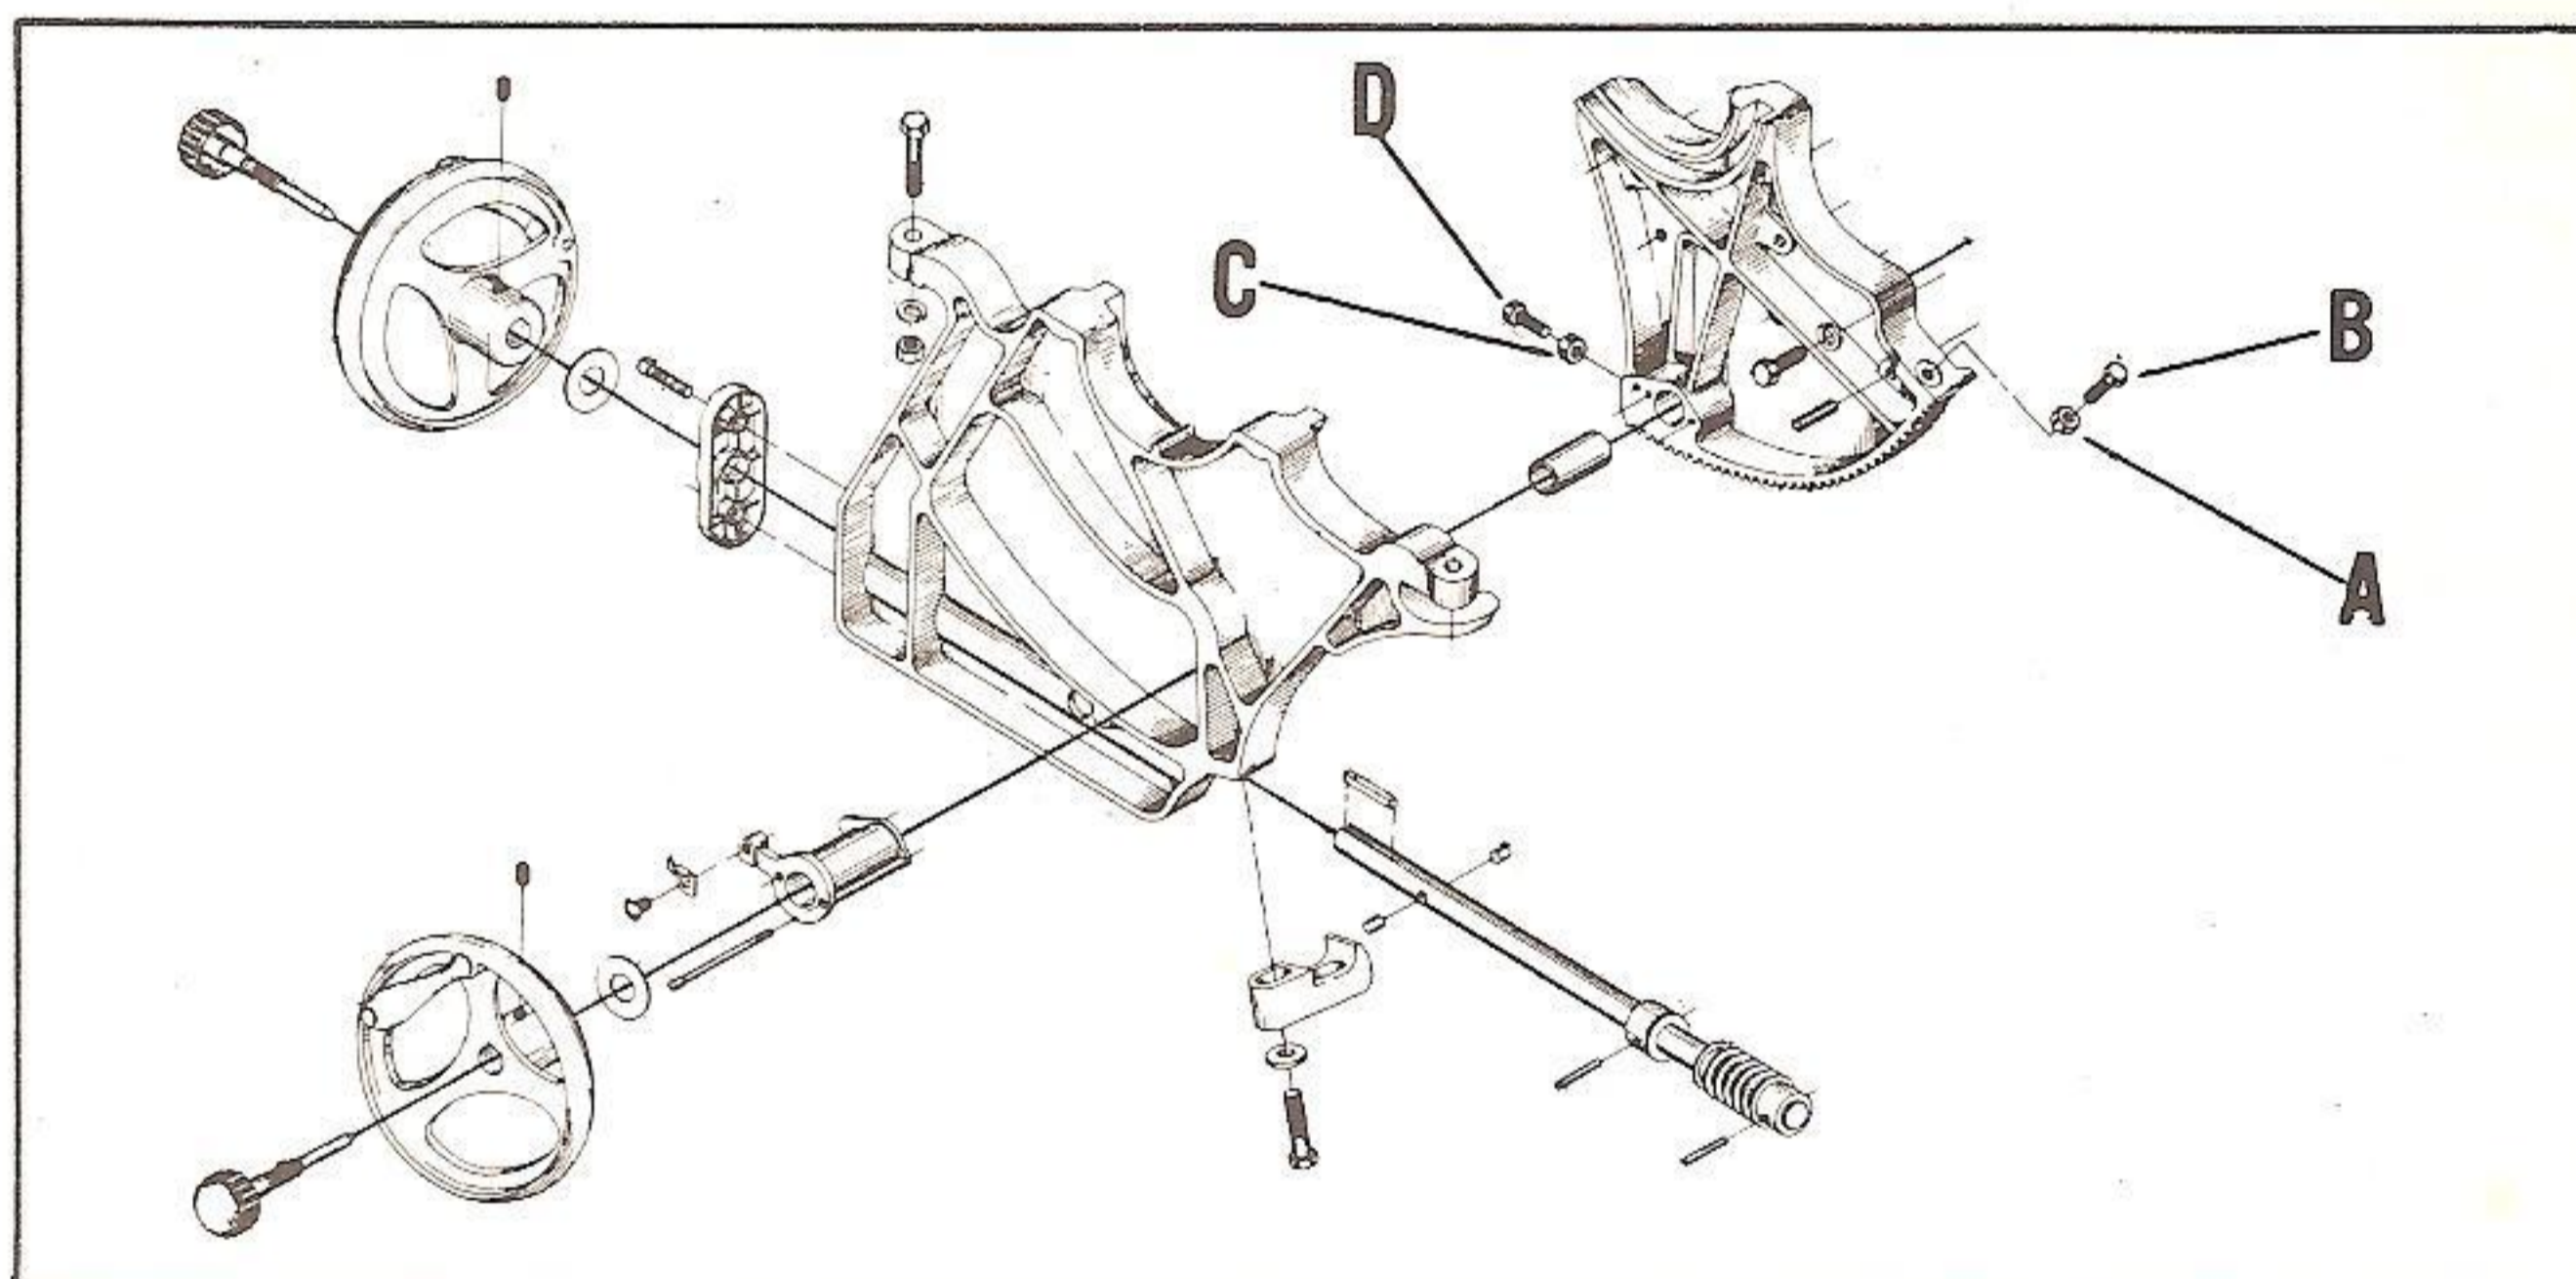
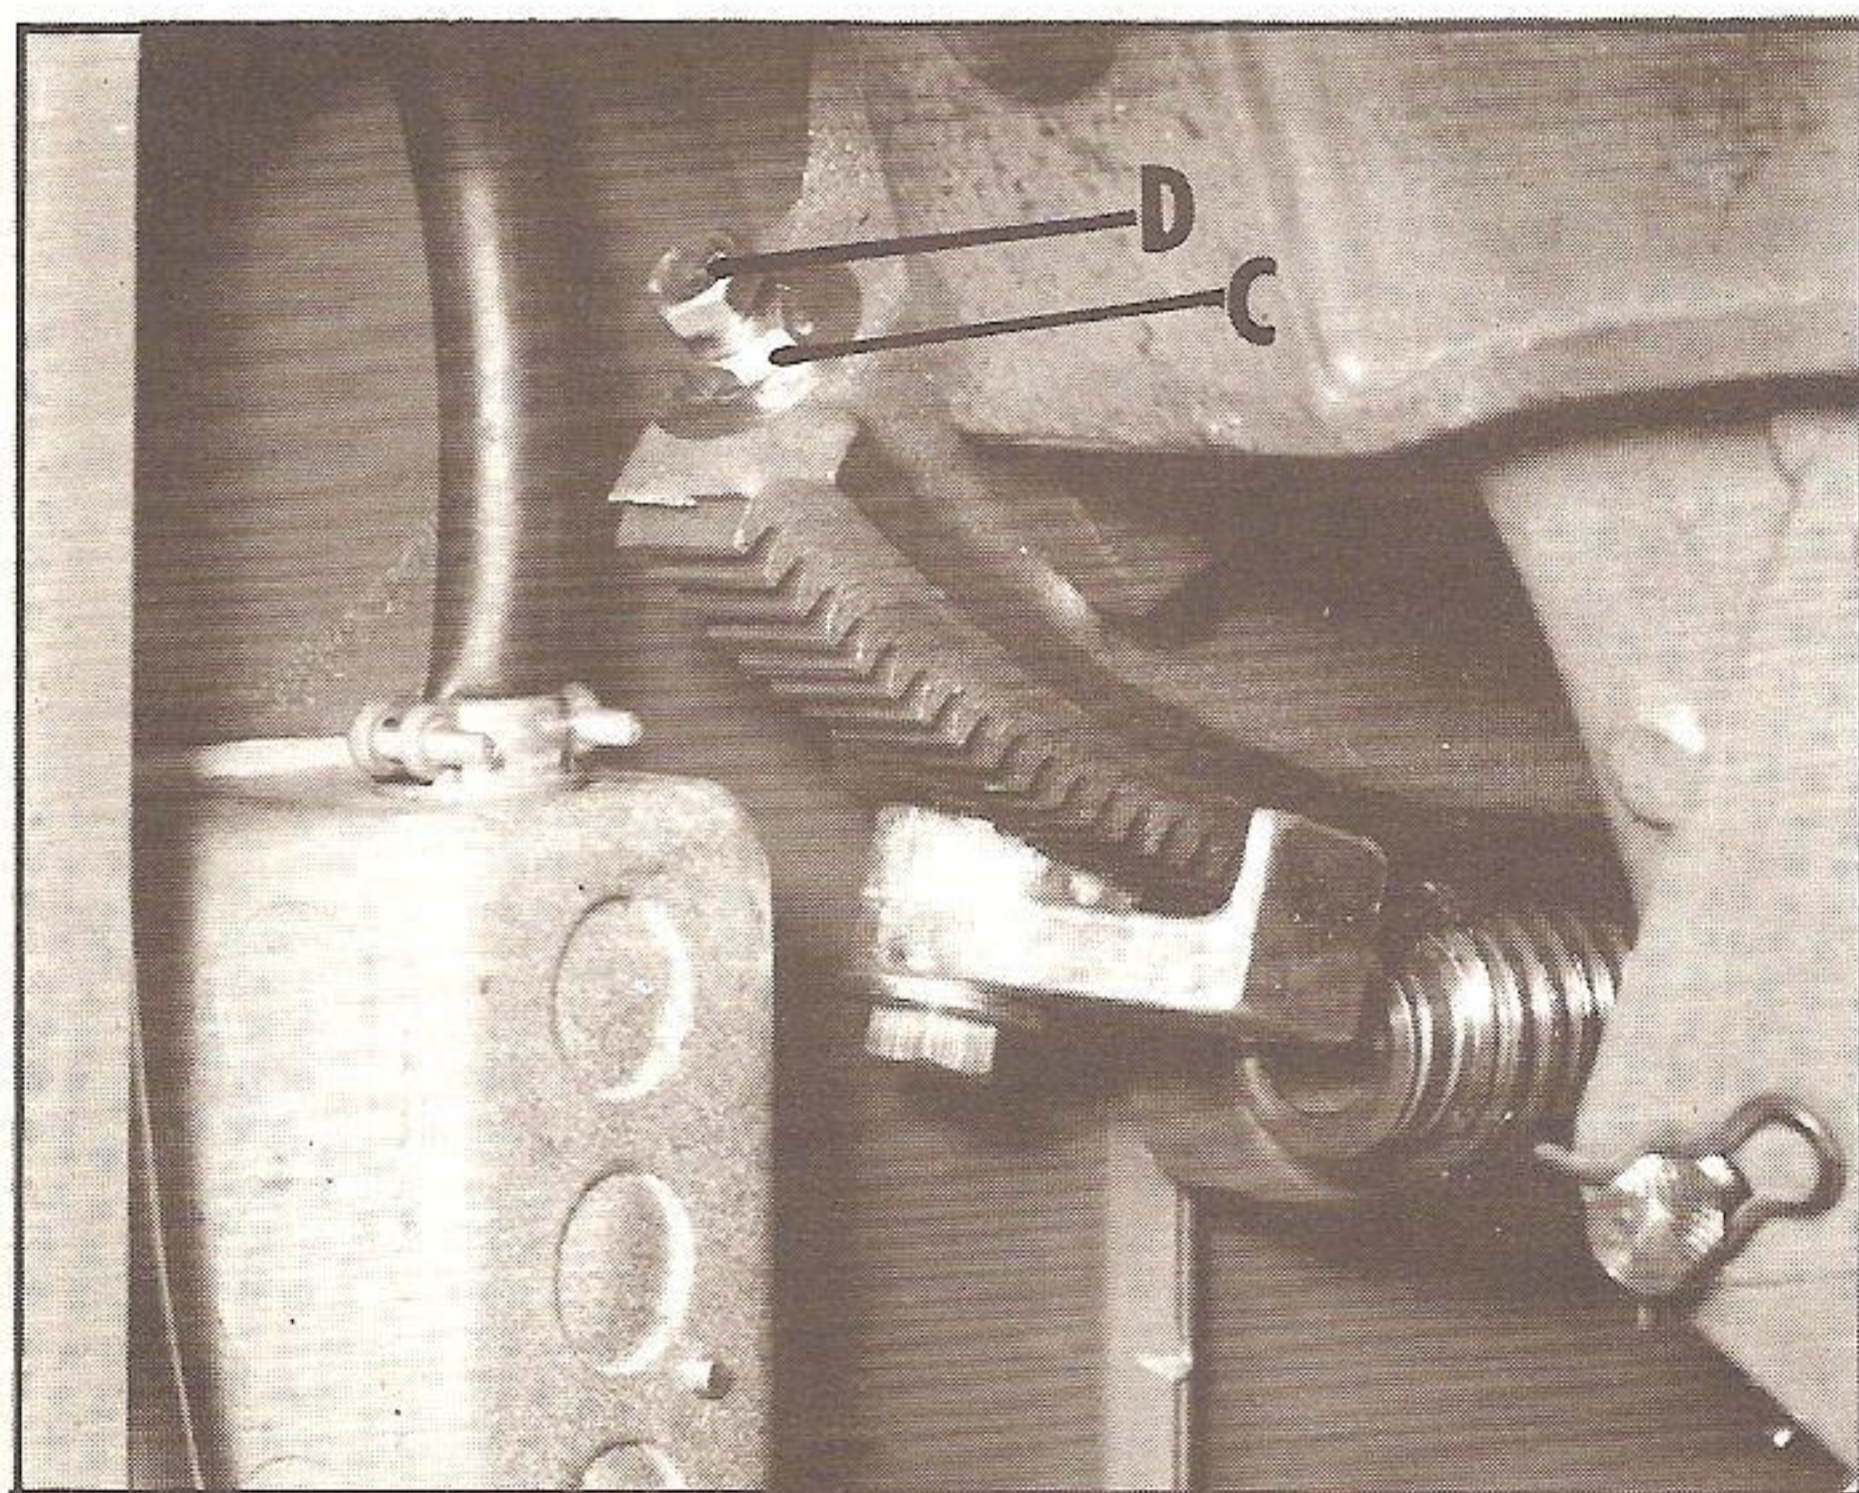

Fig. 21
Fig. 22
2. Place a steel square on the table and check to see if the blade is at 90 degrees to the table. If an adjustment is necessary, loosen locknut (A) Fig. 21, and turn adjusting screw (B) against the lug on the front trunnion when the blade is at 90 degrees to the table. Then tighten locknut (A).
4. Tilt the saw to 45 degrees and check with a combination square. If an adjustment is necessary, loosen locknut (C) and adjust screw (D) Fig. 21. The locknut (C) and adjusting screw (D) are also shown in Fig. 22.